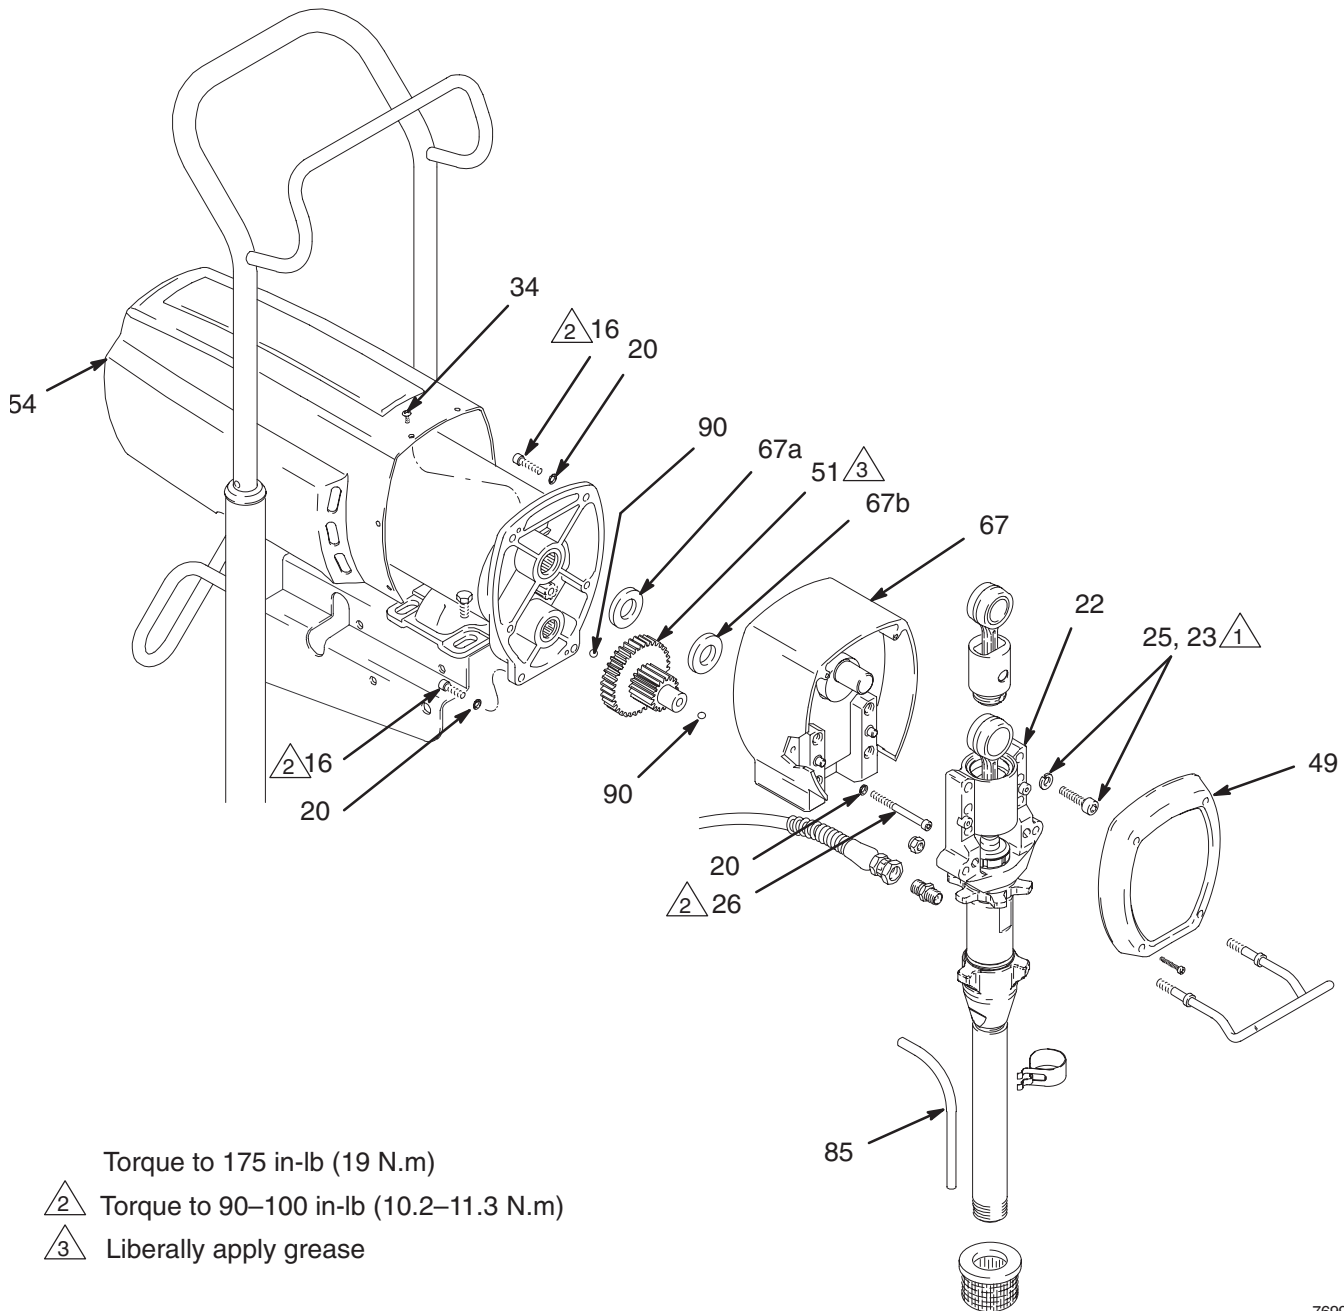

Fig. 18
**NOTE:** Read **General Repair Information** on page 16 before doing this procedure. See Fig. 18.
2. Remove front cover (49) and motor shield (54). Unclip drain hose (85) from pump.
3. Remove four bearing housing screws (25) and lockwashers (23).
4. Lightly tap lower rear of bearing housing (22) with a plastic mallet to loosen it from drive housing (67). Pull assembled bearing housing and connecting rod straight off drive housing.
5. Remove two drive housing screws (26) and lockwashers (20).
6. Remove two lower screws (16) and lockwashers (20) and then two upper screws (16) and lockwashers (20) from front of motor (73).
7. Tap drive housing (67) with a plastic mallet to loosen it from front of motor (73), and then pull drive housing straight off.
8. Liberally apply approximately 4 ounces of bearing grease to gear cluster (51). Grease is supplied with drive housing replacement kit. Be sure thrust balls (90) are in place.
9. Place bronze-colored washer (67b) then silver-colored washer (67a) on shaft protruding from big gear in drive housing (67).